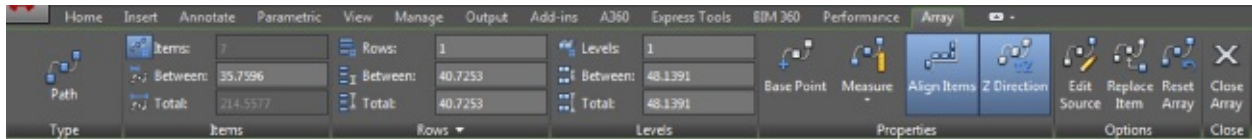

FIGURE 6.13 The Array tab displays a different set of panels and options when an array is selected.
1. Click the array of chairs. Notice that the Array contextual Ribbon tab appears (see Figure 6.13).